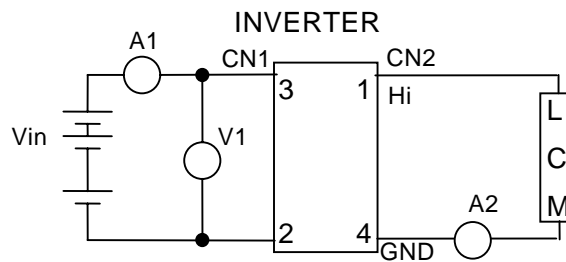

Fig.1 Wiring
- (1) The electrical characteristics are measured as we show on measurement diagram Fig.1. $V_{in}=5.0V$.
- (2) As we show on measurement diagram Fig.1, the test equipment shall be V1:DC Volt meter (Class0.5) A1:DC Current meter(Class0.5) A2:AC Current meter type2016(Y.E.W) or FLUKE45(FLUKE) V_{in} :PW16-5ADP(Kenwood) .
- (3) The line length of between the lamp and CN2(high voltage)is less than 150mm.